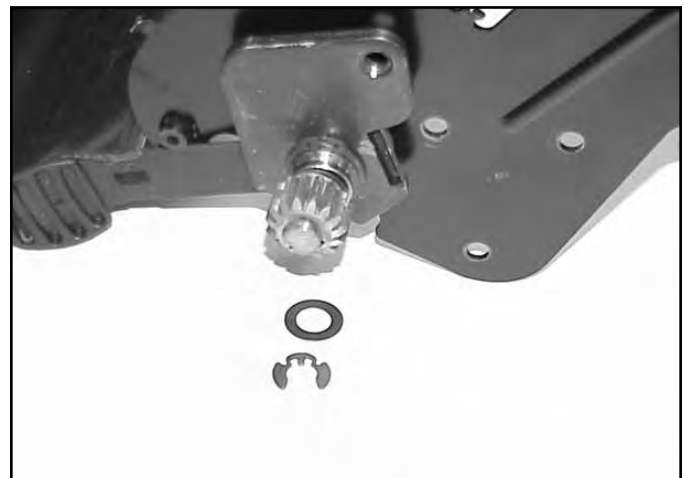

Fig 176
3. Remove the retaining ring and thrust washer (Fig. 176).